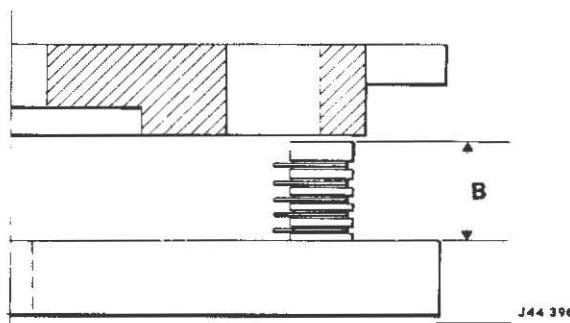

FIG 11
Subtract the thickness of the service tool top plate (15mm) from the measurement taken (A) to give dimension B (Fig 11).